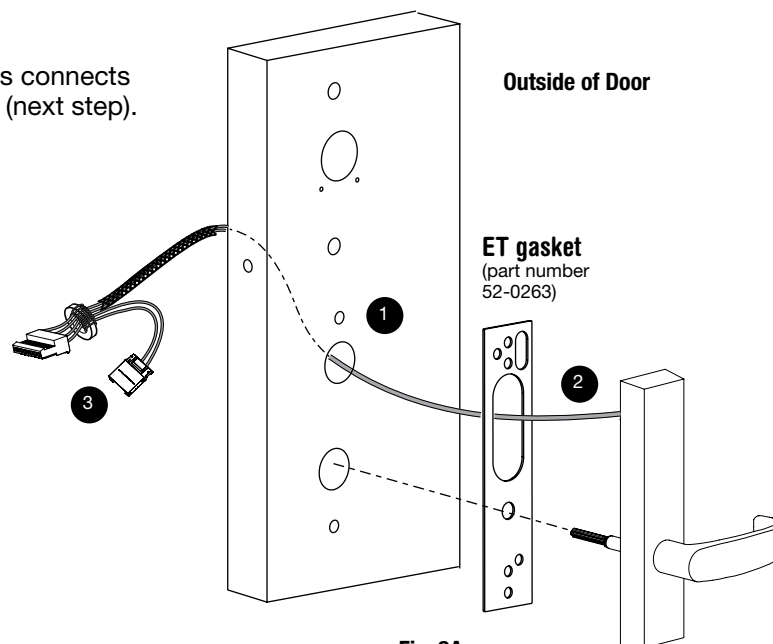

Fig. 2A
For exterior applications, use ET gasket (52-0263) to seal between ET escutcheon and outside door surface (Fig. 2A).
- 1A. For wood doors: Route ET wire harness through the cylinder hole and out the other side (Fig. 2A).